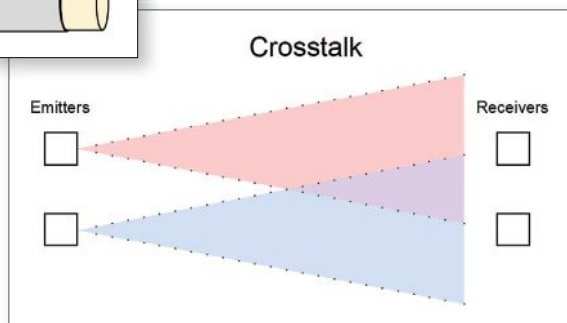

Figure 2: Photo eyes interfering with each other.
- **Visible versus infrared (IR) light:** Users will usually have to aim the light, and that's a lot easier if it can be seen, so consider visible light unless there's a reason to use infrared (IR).
- **Crosstalk:** The light from these sensors can interfere with other sensors and light curtains. Consider that the light won't be a line, it'll be a cone and may affect other devices that use the same wavelength (Figure 2).